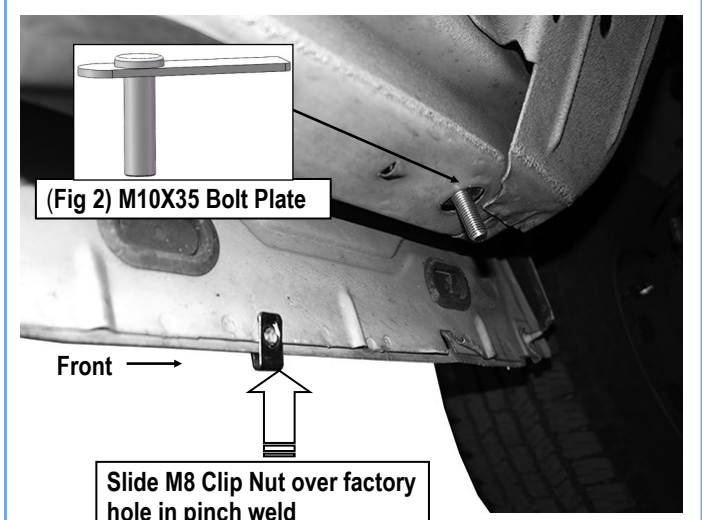

Fig 3
Starting installation from the driver side front of the vehicle. Locate and remove the rubber plug near the front tire opening, **(Fig 1)**. Select (1) M10X35 Bolt Plate, **(Fig 2)**. Insert the Bolt Plate into and across the opening, **(Fig 3)**.
Line up the mounting tab on the Bracket with the factory hole in the pinch weld. Slide (1) M8 Clip Nut over the hole in the pinch weld with the nut toward the outside of the vehicle, (Fig 3).